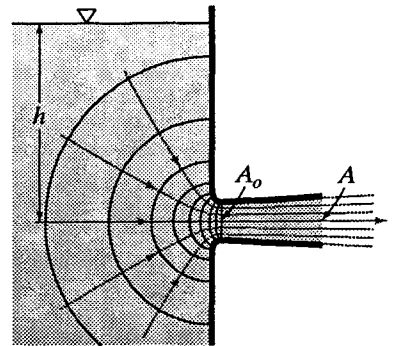

Figure X11.6.5
- 11.6.8 Given that the diverging tube shown in Fig. X11.6.5 has  $A = 1.75A_o$ . Find the throat velocity and pressure head when  $h = 3$  m of water. Neglect all friction losses.